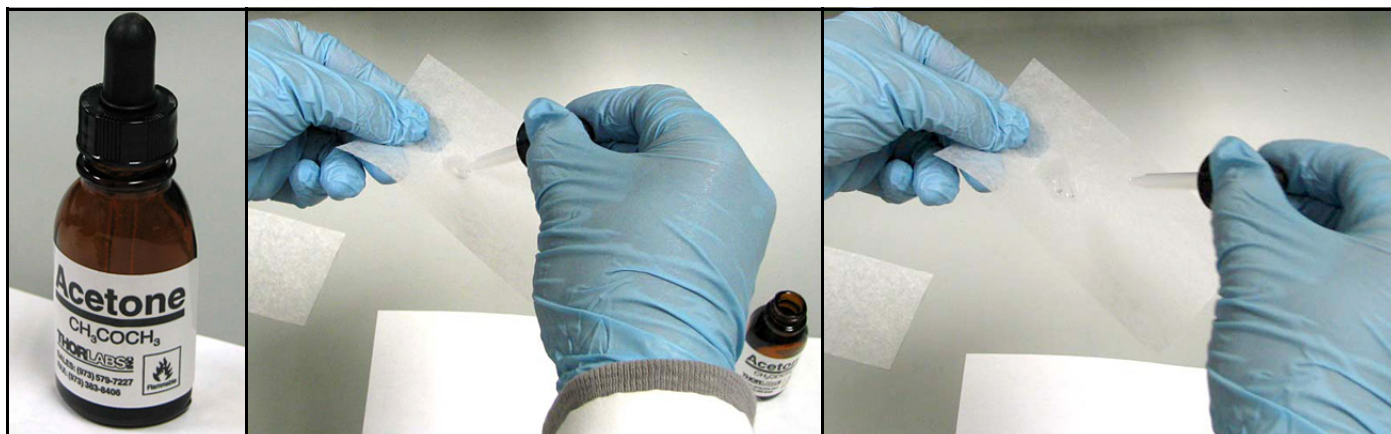

Figure 88: Using Analytical Grade Acetone
4. Using a piece of lens tissue, wet a small area with a very small amount of **analytical grade acetone** (barely wet the lens tissue). Typically, one drop of acetone will suffice. Tilt the lens tissue so that the acetone drop is absorbed by the lens paper along the length of the piece (see *Figure 88* below).
6. Using a piece of lens tissue, wet a small area with a very small amount of analytical grade acetone (barely wetting the lens tissue). Typically, one drop of acetone will suffice. Tilt the lens tissue so that the acetone drop is absorbed by the lens paper along the length of the piece (see *Figure 88* on page 105 and *Figure 94* below).